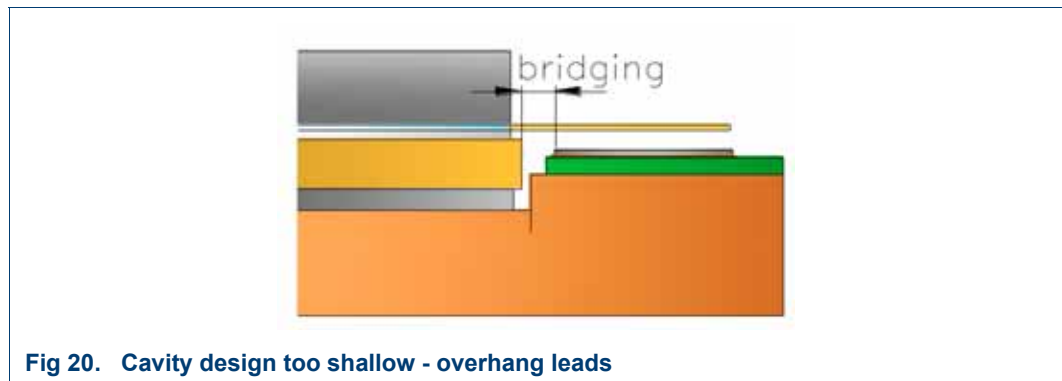

Fig 20. Cavity design too shallow - overhang leads
- In a situation with too shallow cavity (Fig 20) the distance between the solder of the leads and the flange becomes smaller, increasing the chance of solder bridging resulting in short circuits. This can potentially also lead to leads not soldered.